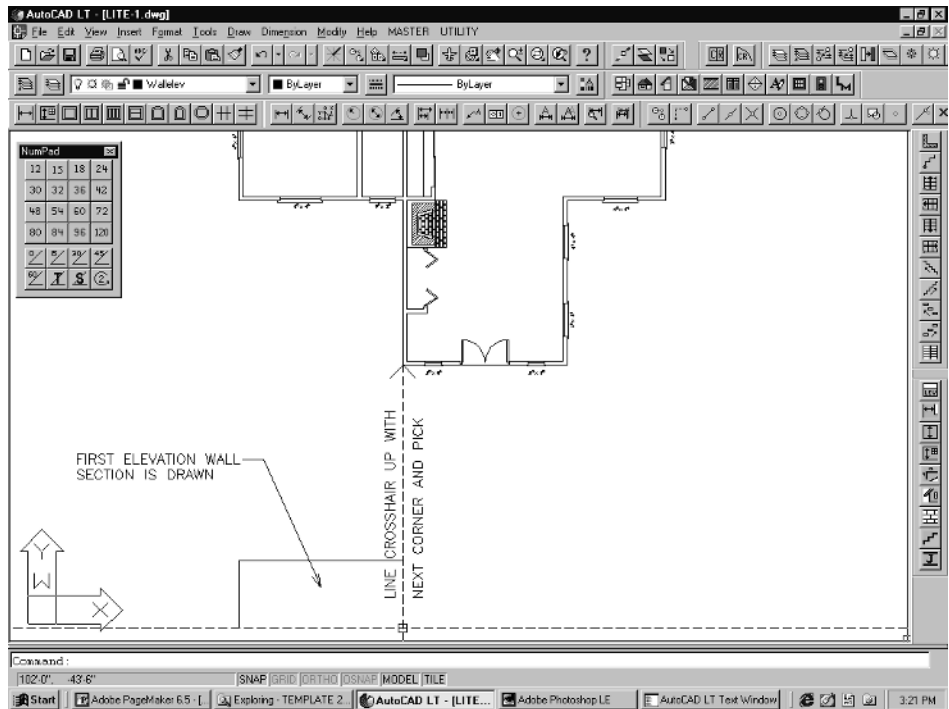

Figure 6-61
- Pull the cursor to the right, line up the crosshair with the next building corner, and pick with your left mouse button. The first section of the elevation wall will be drawn, as in Figure 6-61. The Elevation Menu will pop back up.